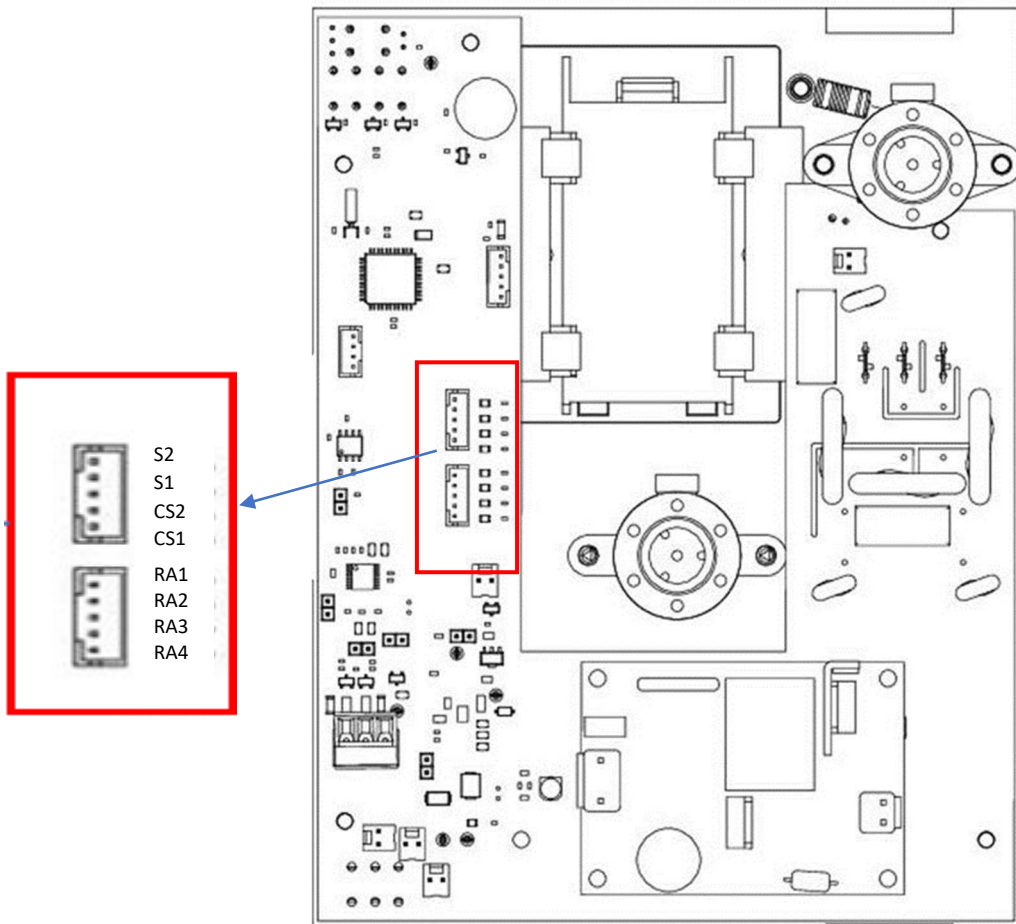

Figure 10 - Chart Parameters Settings LED Indication
The chart recorder comes with default required Chart range, chart speed and sensor type setting. If the user wants to update these parameters, then follow the Steps as shown in figure 10.
- Locate the 8 LEDs on the PCB – refer to figure 10.